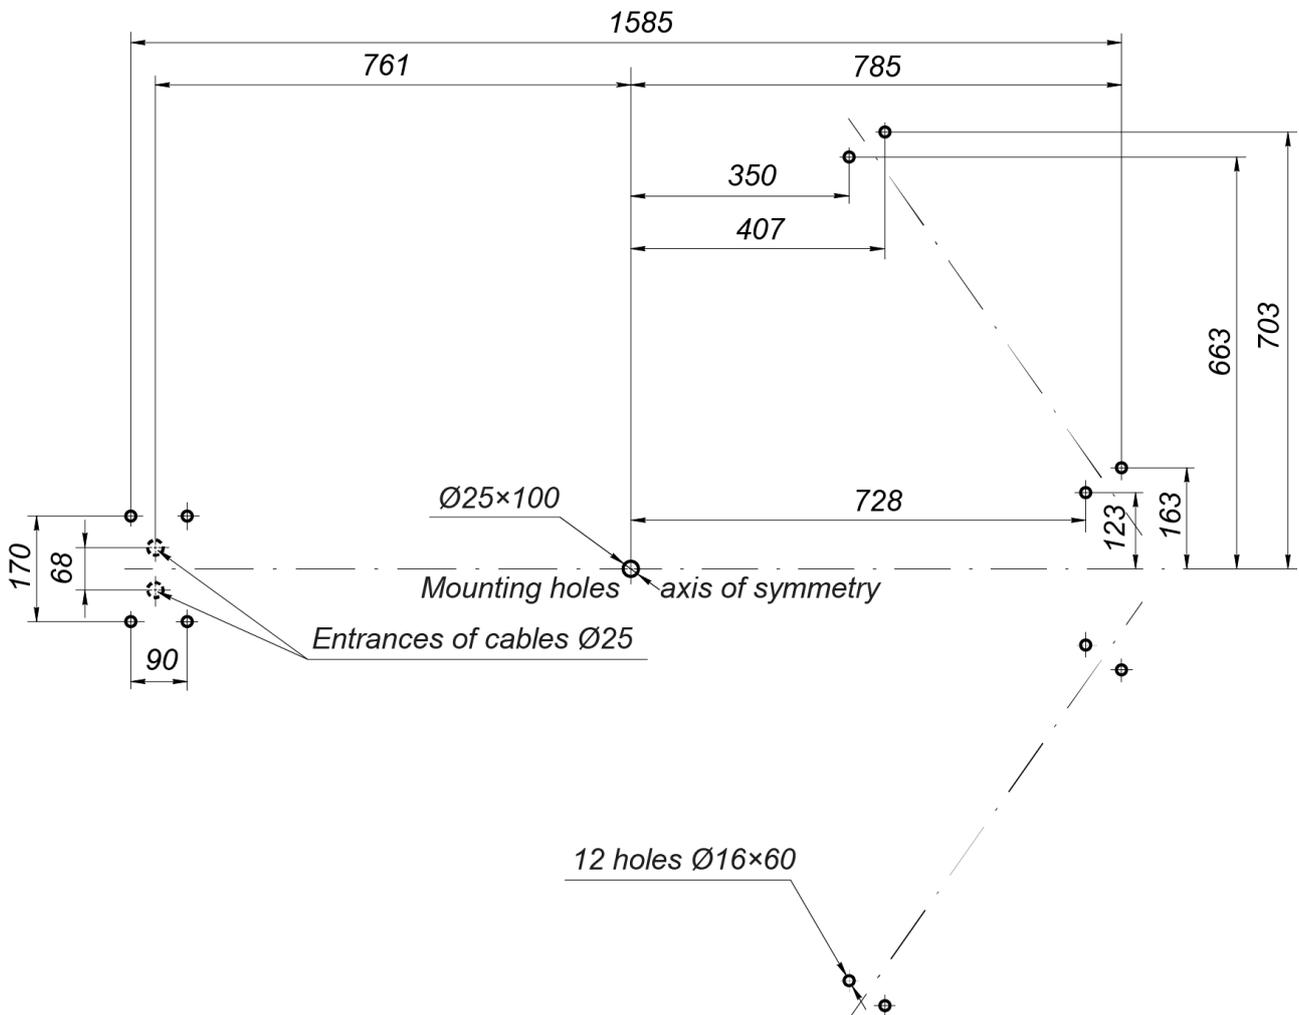
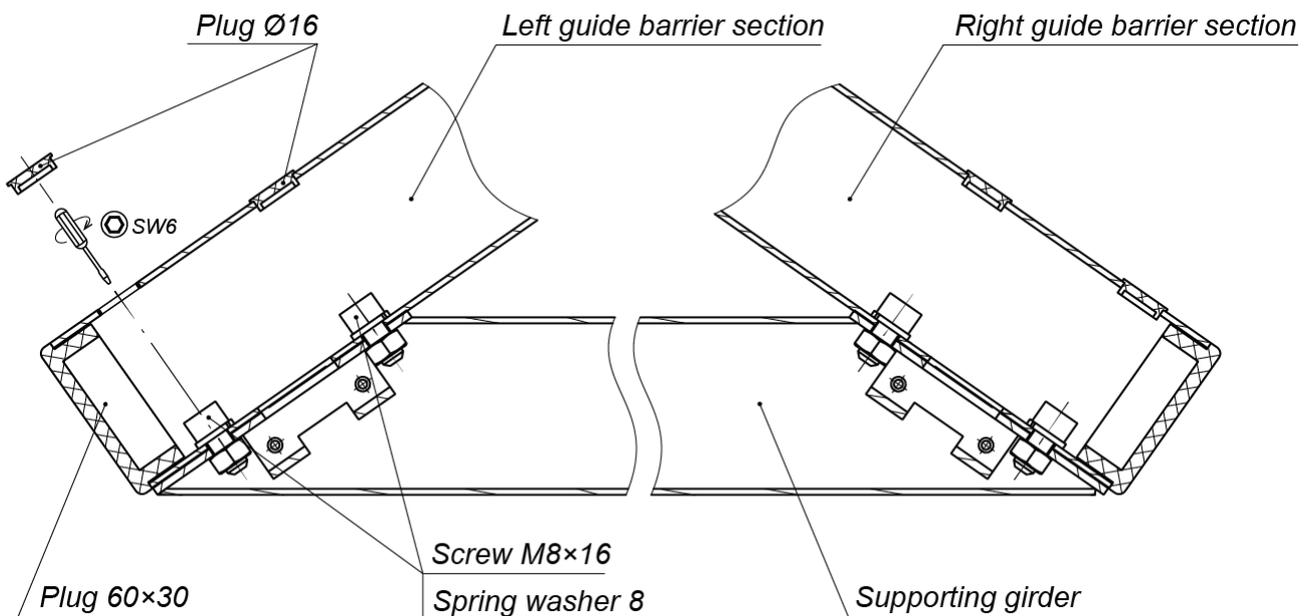

Figure 12. Mounting hole pattern
Figure 13. Fixing of the supporting girder (7) to the barrier sections (6)
1. Install PS of the turnstile and if necessary PS of walkway downlights in designated locations and connect the power cables of the turnstile (13) and walkway downlights.
3. Mark out on the mounting surface mounting holes for the turnstile installation. Use template for markup, check the dimensions in accordance with Fig. 12.
sections should have right positioning and orientation: indication blocks of the guide barrier sections should be turned out of the axis of symmetry (see Fig. 12); consider the positioning of the support post fixing points on the sections (see Fig. 13).
9. Install the supporting girder (7) on the guide barrier section (6):
- Fix the supporting girder on the guide barrier sections by four screws M8×16 (wrench SW6) from the set of assembly tools (box №5). When installed outside it is recommended to seal the fixing zone with a weather resistant silicon sealant to ensure reliable operation of the module (see Fig. 13).
10. Unpack post with barrier arms (5) (box №5).
11. Install the barrier section with barrier arms (5) (operation should be performed by at least two persons!):
- For laying the power cables and control cables through the cable ducts in the mounting surface from underneath: lay the barrier section with barrier arms (5) on the mounting surface so that the supporting flange is near the hole A. Then using a fish tape drag the cables from the flange side throughout the supporting girder out of the top end opening. The cable pin ends should stick out 0.8-1.0 m from the upper hole. Temporarily fix the cable pin ends on the upper barrier post (for example, with adhesive tape).
- Erect the barrier section with barrier arms on holes with anchor bolts on the mounting surface along the symmetry axis, at this the flange should coincide with area A, and the bottom rotation unit (3) – with the hole with M16 anchor bolt (see Fig. 12).
17. Tighten the anchor bolts in the fastenings joining the installation surface of supporting flanges of the barrier arms post (5) and flanges of the sections (6) of guide barriers set. In case of skewing in between the load-bearing elements of the turnstile, assembly gaskets are to be used.
19. Use the plastic plugs Ø16 to cover the bolt holes in the joints connecting the rotor section (2) and supporting girder (7) to the section (6) of guide barriers set (Fig. 13 and 20).